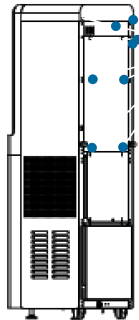

Figure 10 ·
3. Loosen the screws with a screwdriver and remove the cover and the rear baffle (Figure 10).